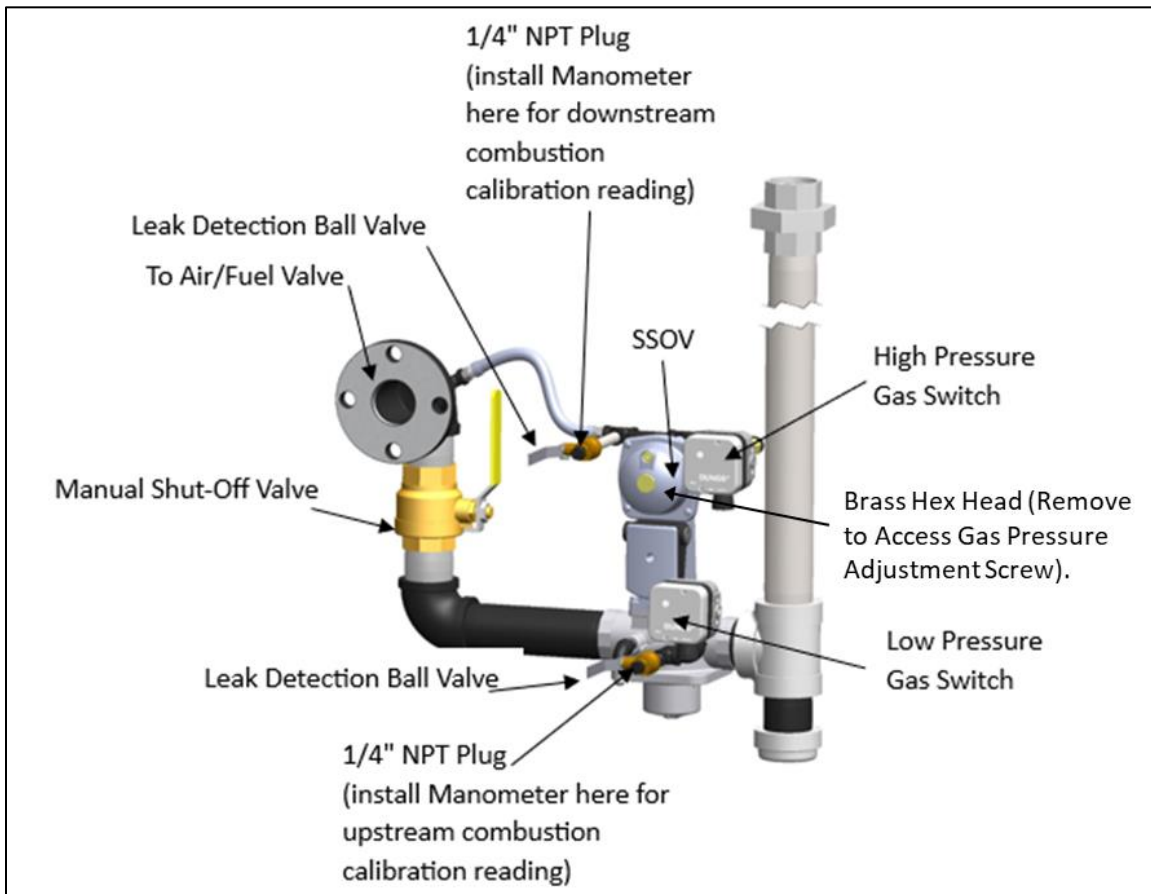

Figure 4-1: Gas Train Components and Instrument Connections
Figure 4-1 shows where the manometer is installed on both upstream and downstream locations.
3. Remove the 1/4" NPT plug from the leak detection ball valve on the upstream or downstream side of the SSOV, as needed during testing, as shown in Figure 4-1.
3. Connect manometer directly to the Low and High Gas Pressure Switches (Figure 4-1).
1. Refer to Figure 4-1 and remove the 1/4" NPT plug from the exhaust manifold.